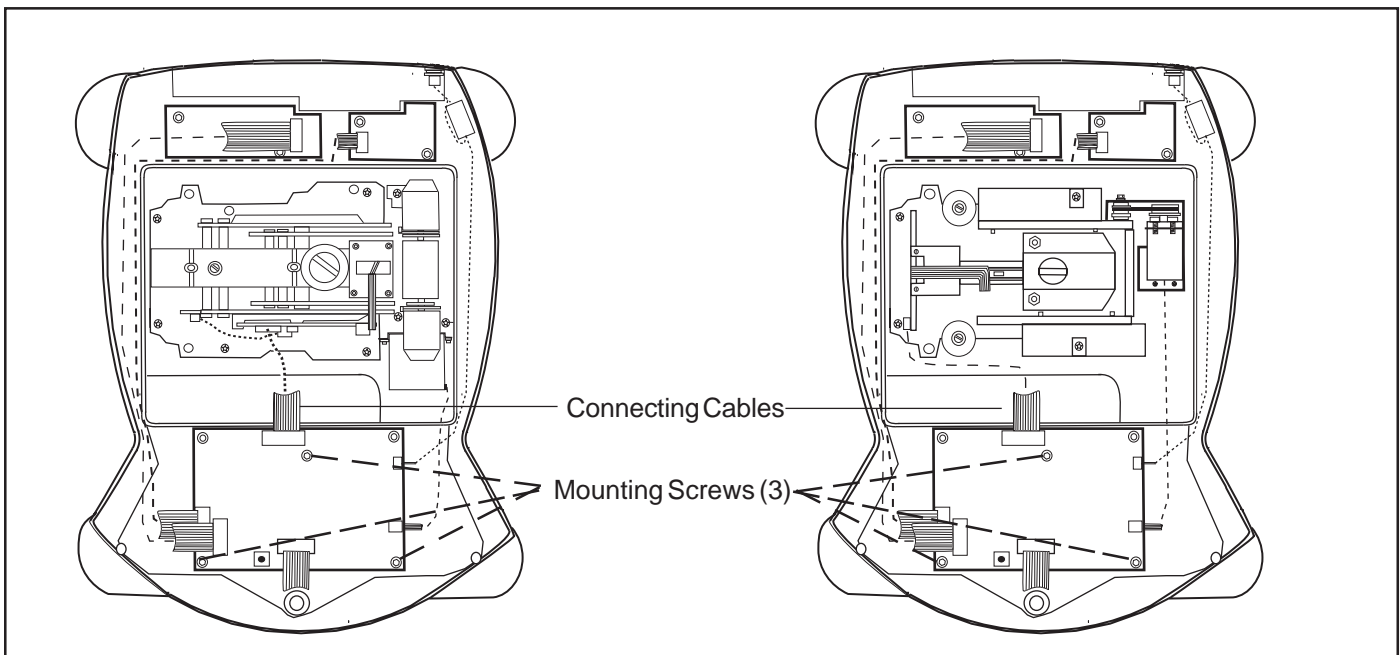

Figure 3-10. Removing Main PC Board.
2. Disconnect the cables from the Main Board assembly. COM 1 is present on AV models only, COM 2 is optional on AV models. See Figure 3-10.